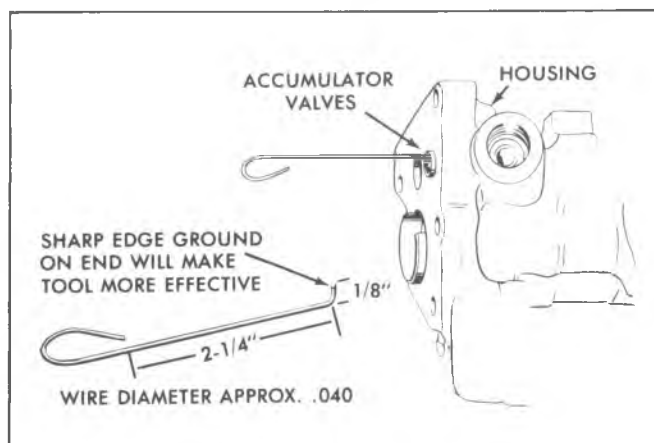
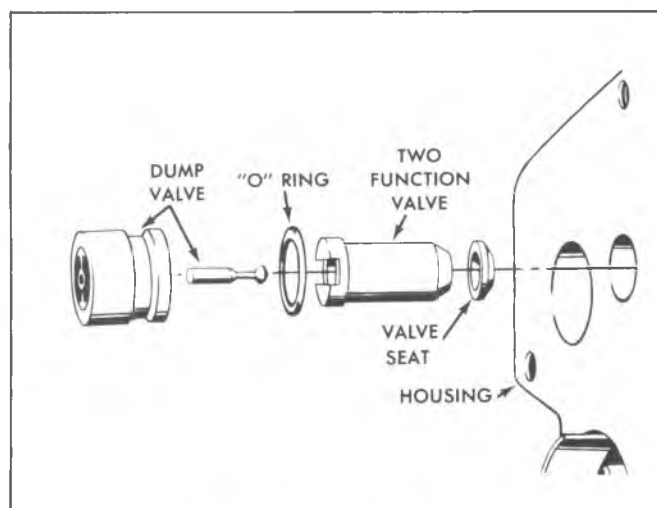

Fig. 5-5E-Removing Accumulator Valves
Fig. 5-8E-Accumulator Valves
15. If accumulator valve was determined to be faulty, remove valve using a small diameter wire tool (fig. 5-5E). Remove the dump valve by catching the tool under the pin guide near the center of the valve, then remove two function valves and seat (fig. 5-8E).
10. If accumulator valve was removed, install new seat into the valve bore. The seat can be forced to the bottom by installing the two function valve (fig. 5-8E). Make certain the check valve seat is cup side up when in bore.